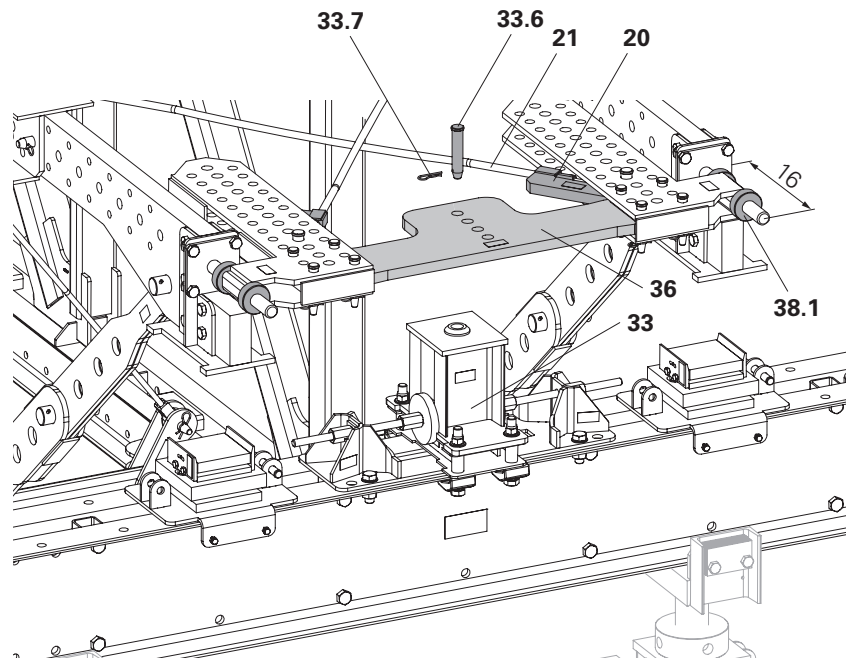

Fig. C1.04
If the holes in the bracing traverse (36) and horizontal bearing (33) are not aligned, the position of the bracing traverse must be adjusted. (Fig. C1.04)